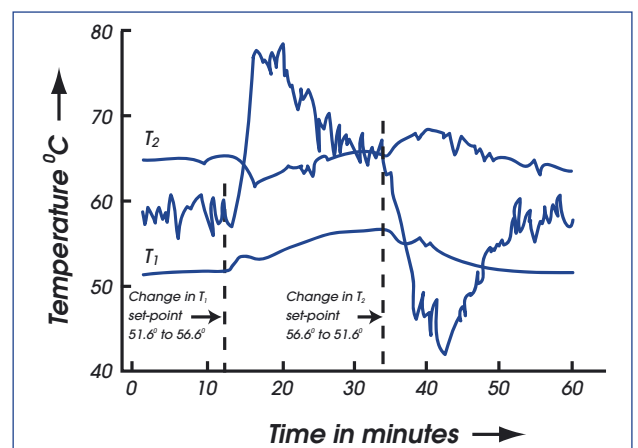

Fig 3: Dual-loop control using Windows software
- vii) multi-variable control: flow control of the product stream, product temperature controlling the hot water flow rate, hot water temperature controlling the heater power (Fig 3)